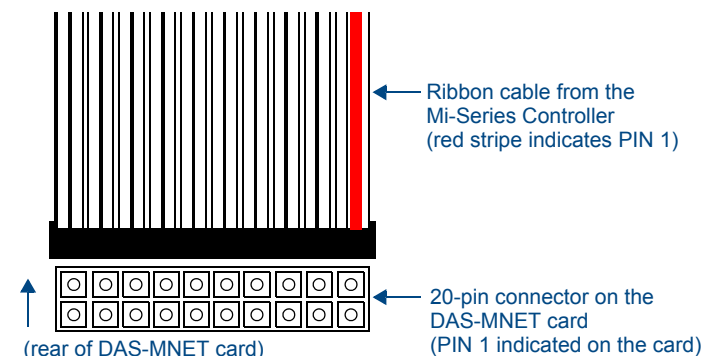

FIG. 5 Pin 1 indicated on the ribbon cable and the connector on the DAS-MNET
5. The red stripe on the ribbon cable indicates "Pin 1" on the cable and connector. Orient the ribbon cable so that the side of the cable/connector with red stripe inserts into the connector on the DAS-MNET labelled "Pin 1" (as indicated on the DAS-MNET circuit board, next to the connector - see FIG. 5).